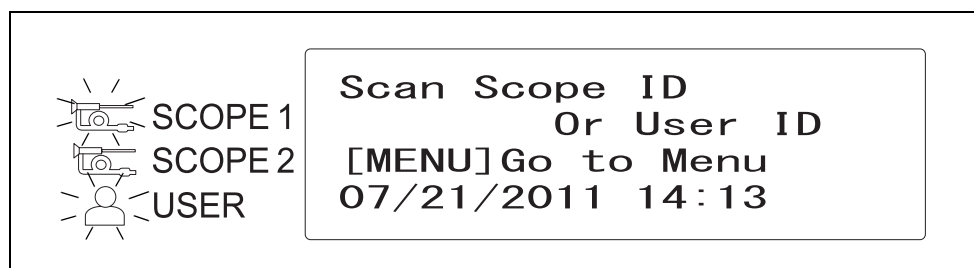

Figure 4.4
- 2 A short beep sounds when the self-check is completed properly. The "endoscope ID indicator (SCOPE1)" and "User ID indicator (USER)" blinks as shown in Figure 4.4, and the standby screen appears on the LCD.